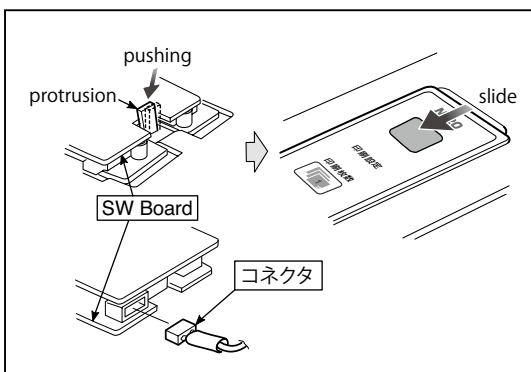

Fig.13
- 1.Remove the SW Panel shown in the figure13.